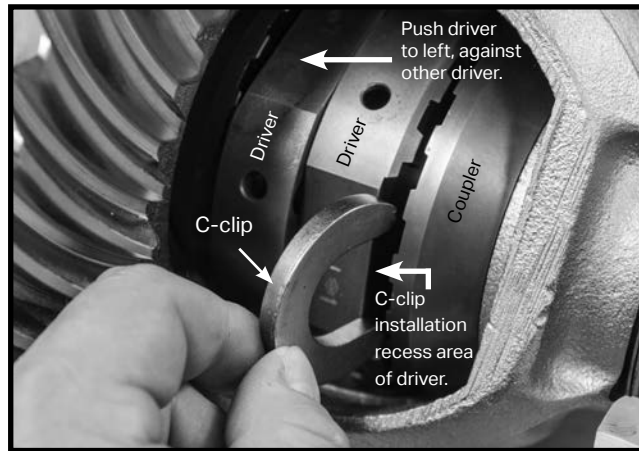

Figure 5: (C-clip axles) Slide C-clip into the C-clip installation recess area of right driver
a) Place the other driver assembly in the differential case. Push it to the left, touching the other driver (**Figure 5**).
e) Slide the C-clip through the recess in the driver's teeth and into the C-clip groove at the end of the axle shaft (**Figure 5**). If needed, use a thin screwdriver to help push the C-clip all the way in.